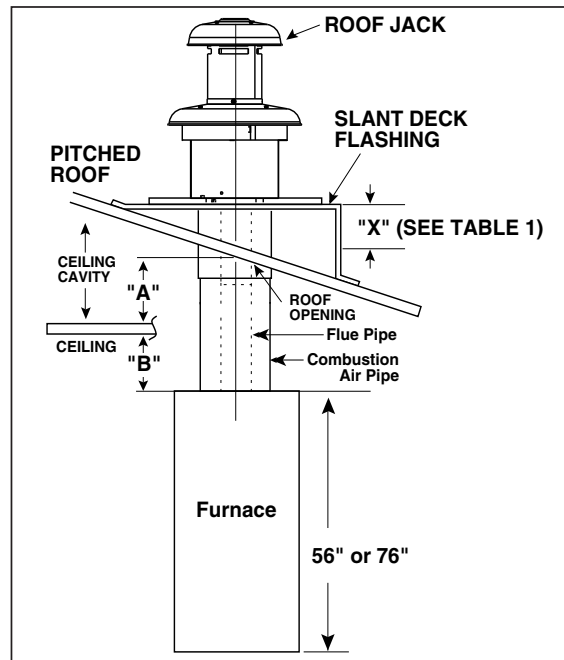

Figure 6. Roof Jack Assemblies
- a. Determine depth of ceiling cavity from center of roof opening to center of ceiling opening. (See Dimension "A" in Figure 6.)
- b. Determine ceiling height and subtract height of furnace. (See Dimension "B" in Figure 6.)